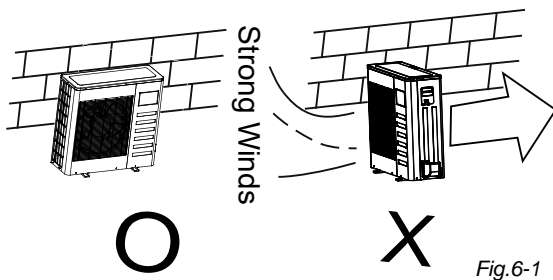

Fig.6-1
- In the case that the installation place may be exposed to strong winds, such as a seaside gusts, make sure that the fan is operating properly by putting the unit lengthwise along the wall, or by using a dust shield. (Refer to Fig. 6-1)